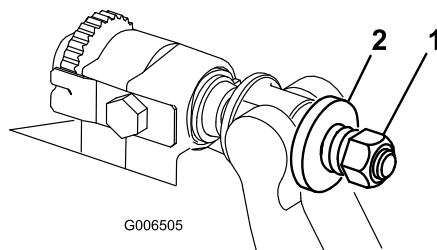

Figure 32
3. Tighten spring tension nut until spring is collapsed, then back off 1/2 turn (Figure 32).